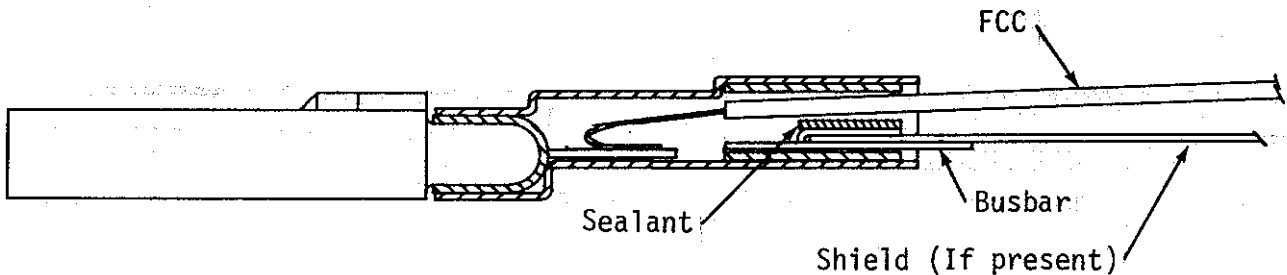

Figure 14. CTA-0055 Sealant Inserted Between FCC and Shield/Busbar
3. If a busbar or a shield/busbar assembly is being terminated in this insert, position a strip of meltable sealant (P/N CTA-0055) between the FCC and the shield or busbar (Figure 14).